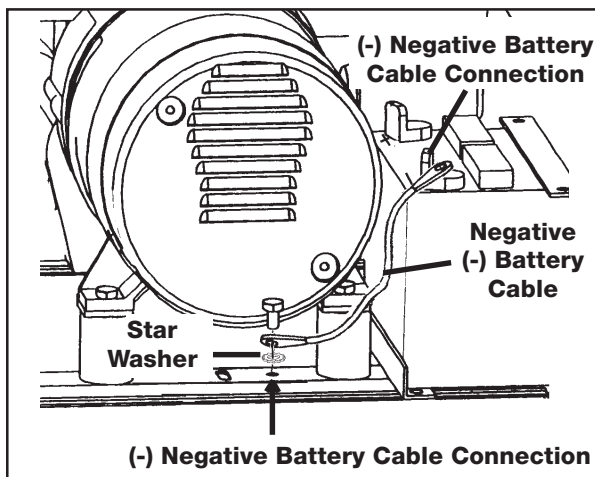

**Figure 5**
5. Remove the nut from the solenoid post and place one end of the positive (red) battery cable onto the post. Reassemble nut and tighten securely. See Figures 5.